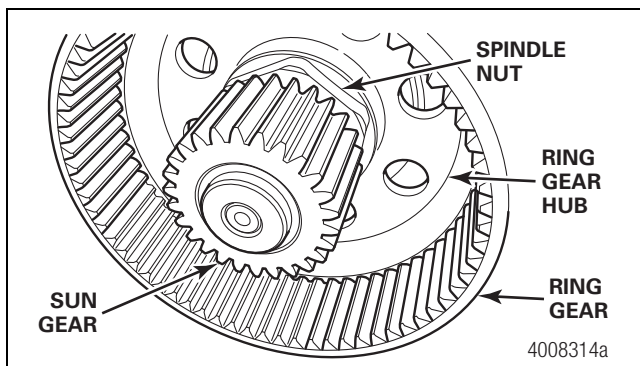

Figure 5.8
2. Remove the sun gear, needle thrust bearing (if equipped) and thrust washer from the axle shaft. Figure 5.8.